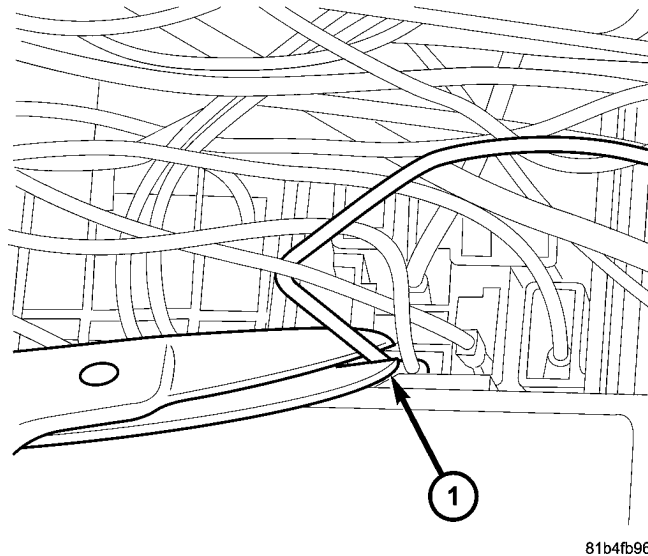

Fig. 2 CUT ASD 20 GA PK/WT TO FUEL PUMP
8. Cut the PK/WT wire, that connects to the fuel pump relay, as close to the PDC cavity A13 terminal as possible, (Fig. 2).